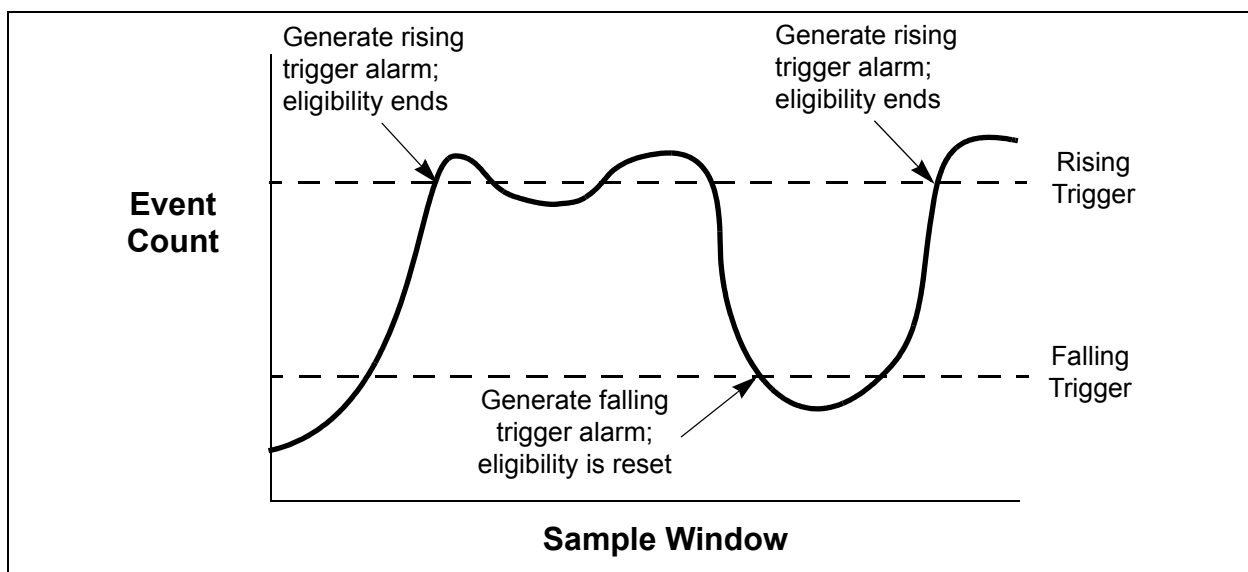

Figure 3-26. Port Threshold Alarm Example
5. Enter a value for the rising trigger. A rising trigger alarm is generated when the event count per interval exceeds the rising trigger. The switch module will not generate another rising trigger alarm for that event until the count descends below the falling trigger and rises again above the rising trigger. Consider the example in Figure 3-26.